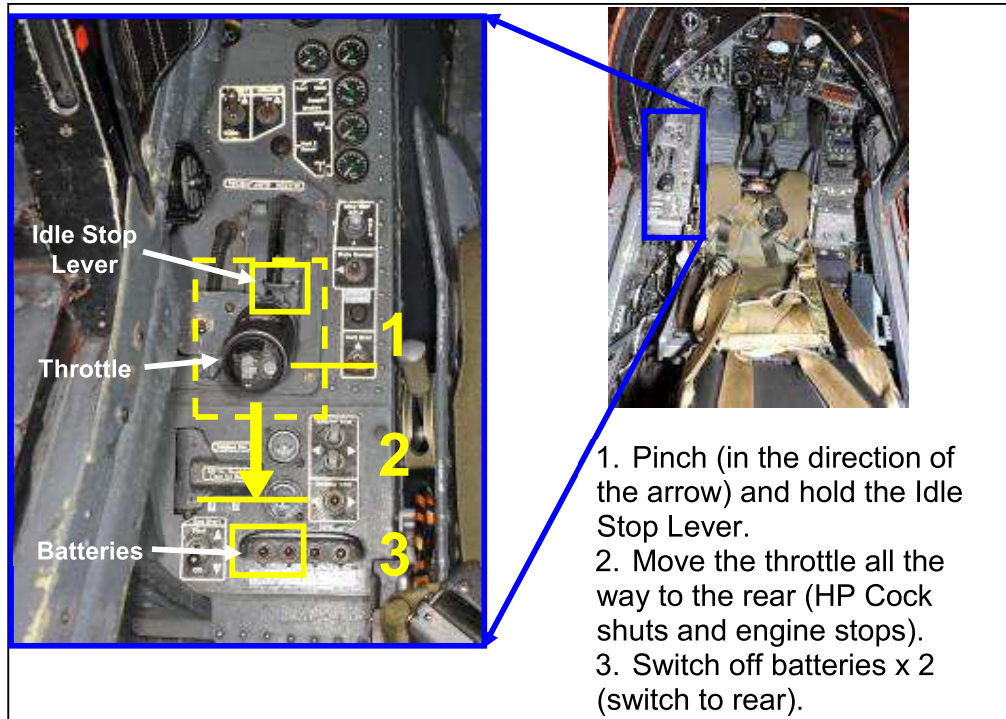

Figure 16 - Engine Shut-down (Front Cockpit)
5. **Emergency Engine Shut-down.** In the event that the aircraft engine is still running when the rescue team arrives, Figure 16 shows how to shut down the engine from the front cockpit. Note that the **engine intakes are adjacent to the rear cockpit**, so extreme care must be taken when approaching the aircraft, opening the canopy and operating the engine controls inside the cockpit.